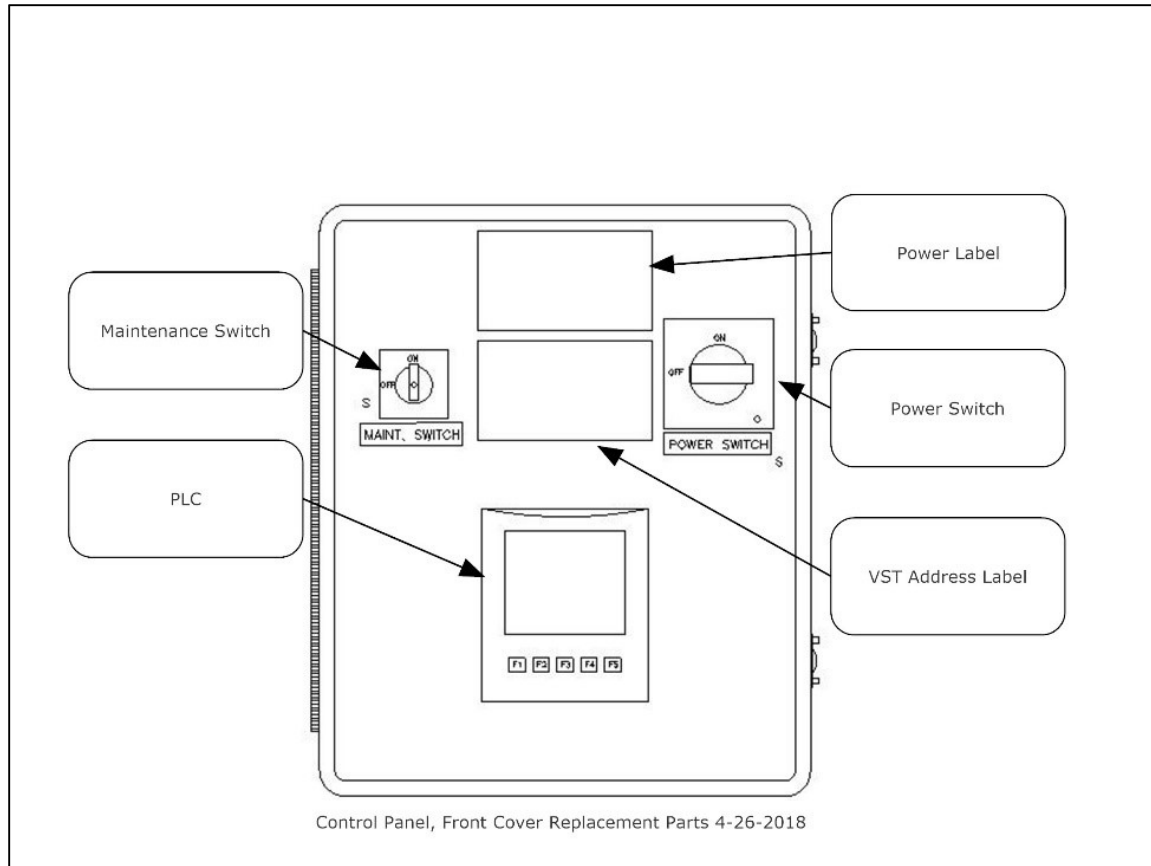

Figure 8-9: VST Control Panel Components – Front Cover
2.	Check that the Power Switch on the front of the Control Panel is ON. If not, turn it ON. See Figure 8-9.
- **See Figure 8-9.**